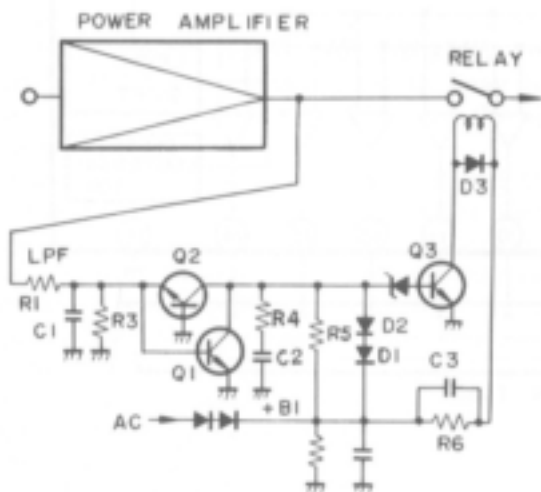

Fig. 5-13 Protection Circuit
With reference to Fig. 5-13 when the power supply is turned on, if there is no input (DC) on Q_1 and Q_2 , they will be off, and the timing capacitor C_2 charges up through R_3 and R_4 , and thus on. When Q_3 conducts, the relay operates, and the output muting on the power amplifier will be removed.